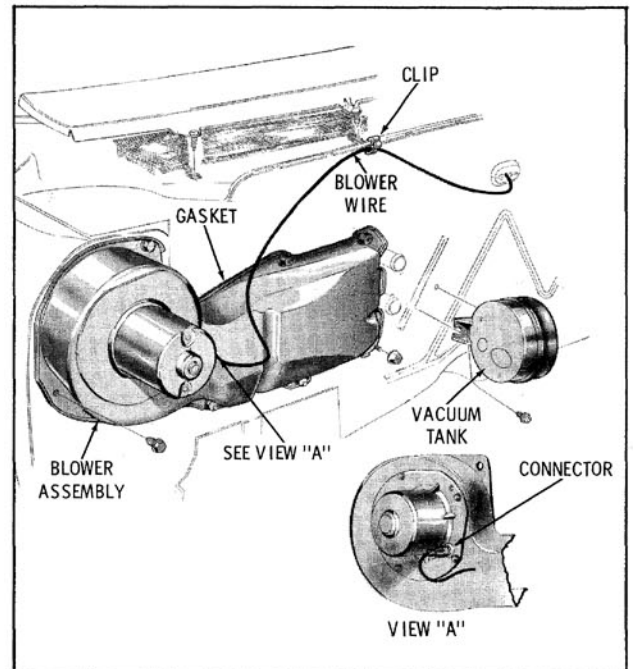

Fig. 14-9 Blower Duct Attachment
4. If necessary to remove the diaphragm, refer to Fig. 14-9 for details.
REMOVE AND INSTALL (Fig. 14-9)
A vacuum tank, located next to the heater inlet in the engine compartment, provides a constant supply of vacuum to operate the vacuum diaphragms. (Fig. 14-9) The vacuum tank is retained with two sheet metal screws.